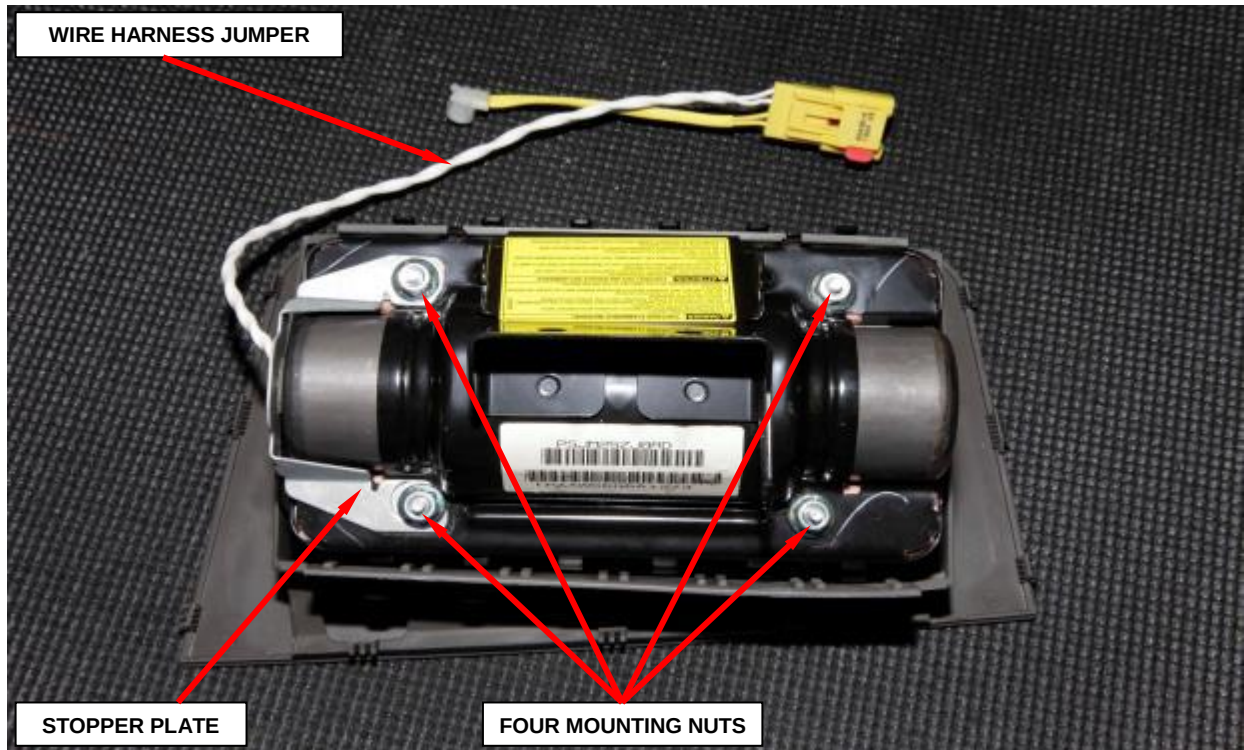

Figure 52 – Mounting Nuts and Stopper Plate
- e. Remove and **discard** the four mounting nuts and remove and save the stopper plate from the housing (Figure 52)